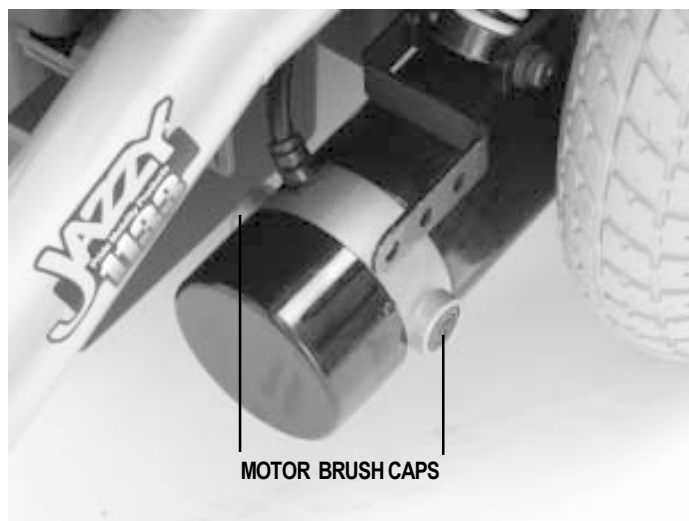

Figure 33. Motor Brush Location
1. Unscrew the motor brush caps. See figure 33.